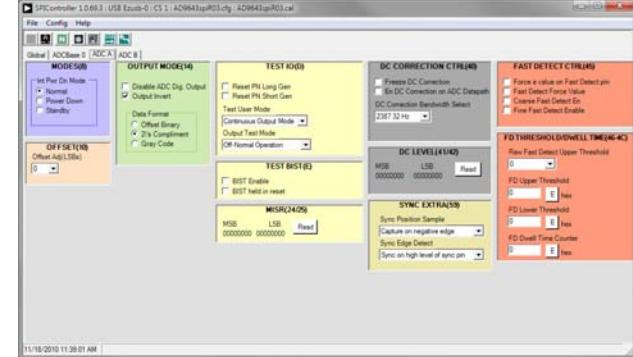
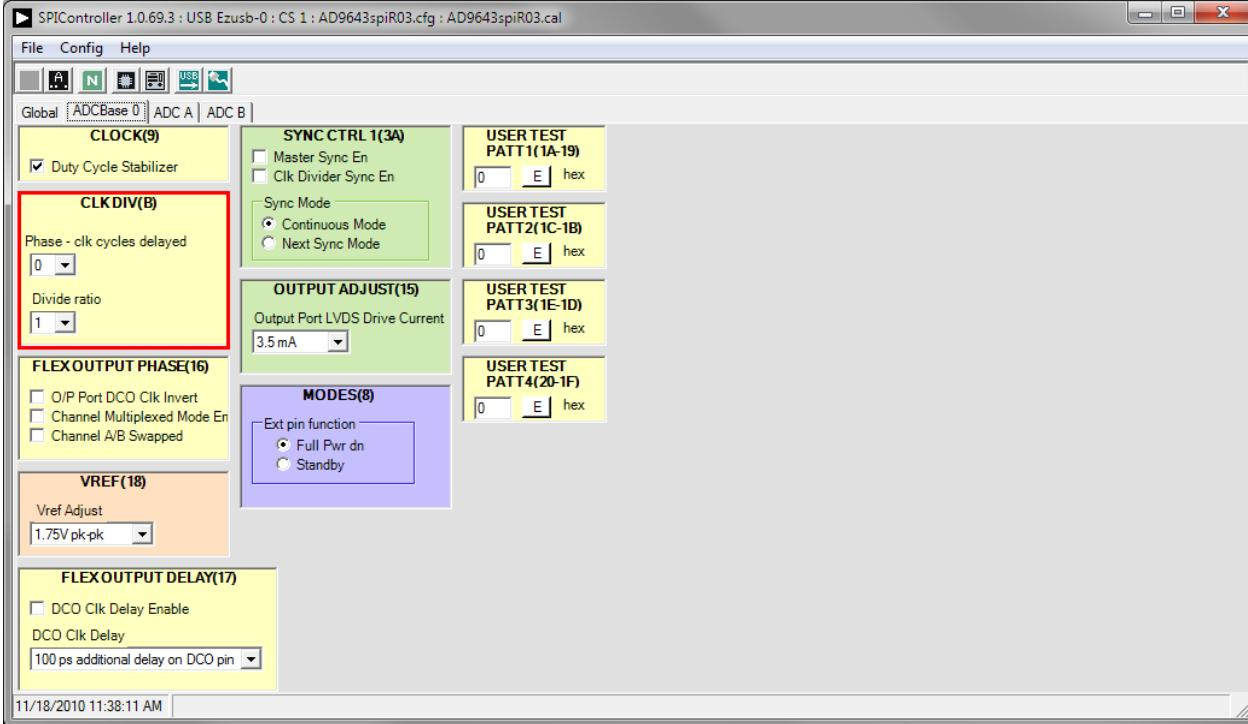

Figure 10. SPI Controller, Example ADC A Tab
Figure 11. SPI Controller, CLK DIV(B) Section
3. In the **ADCBase 0** tab of the **SPIController** window, find the **CLK DIV(B)** section (see Figure 11). If using the clock divider, use the drop-down box to select the correct clock divide ratio, if necessary. See the appropriate device data sheet; the AN-878 Application Note, High Speed ADC SPI Control Software; and the AN-877 Application Note, Interfacing to High Speed ADCs via SPI, for additional information.
4. Note that other settings can be changed on the **ADCBase 0** tab (see Figure 11) and the **ADC A** and **ADC B** tabs (see Figure 10) to set up the device in the desired mode. The settings on the **ADCBase 0** tab affect the entire device, whereas the settings on the **ADC A** and **ADC B** pages affect the selected channel only. See the appropriate device data sheet; the AN-878 Application Note, High Speed ADC SPI Control Software; and the AN-877 Application Note, Interfacing to High Speed ADCs via SPI, for additional information on the available settings.